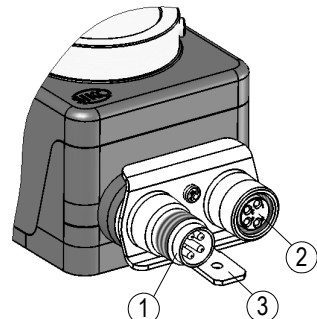

Fig. 4: Pin assignment
Potentially live contacts must be protected against touch. Therefore, take care that the position indicator is connected via the "Bus On" connection (see fig. 4). This ensures protection of the live contacts on "Bus Off" by means of the jack (for the IP type of protection, please refer to chapter 4.1).
- (1) Bus ON: Pin 4 pin (see fig. 4).
- (2) Bus OFF: Female 4 pin (see fig. 4).
For protection against interference, the screens of the signal lines and the power line must be connected on both sides. Potential differences cause inadmissible currents on the screen. Install the PE connection (2) onto the protective earth conductor potential between the plug connectors (see fig. 4). Use 6,3 mm flat connectors with short strands 2,5 mm2 ... 4 mm2 (not in the scope of delivery). For multiple position indicators we recommend connecting the earthing to a ground bar (see fig. 5).